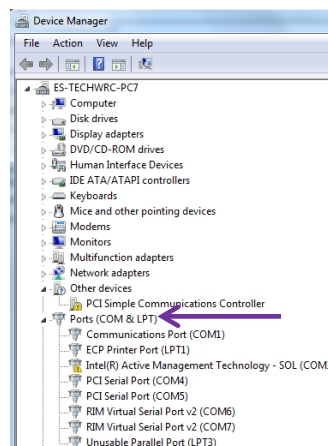

Figure 3: Ports Listed in the Device Manager
3. Click the **Device Manager** option  . The **Device Manager** window appears, as in Figure 3 below.